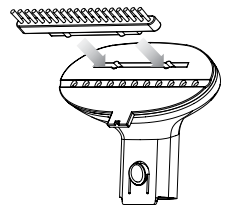

FIGURE 8
2. Insert tab on Fabric Brush into slot on face of Fabric Nozzle (FIGURE 8). Press in until secure.